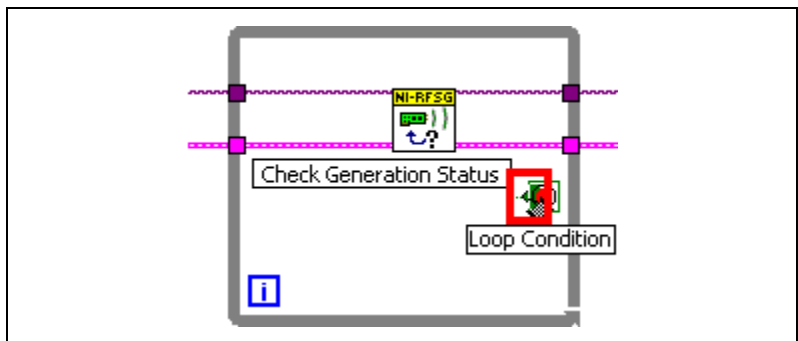

Figure 1-30. Loop Condition Terminal on While Loop
16. Hover the mouse tool over the **Loop Condition** terminal of the While Loop. The terminal is highlighted in Figure 1-30.